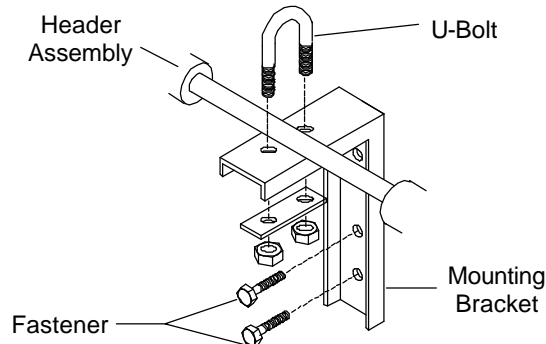

Figure 6
2. Position the brackets so that the top of the bracket is aligned with the bottom of the headers and is centered between the cylinder connections. The brackets should be evenly spaced with the end bracket placed as close to the last cylinder as possible to provide the most support and stability. (Figure 6)
3. Mark the mounting hole and install fasteners suitable for type of wall construction. (Figure 6)
4. Fit the U-bolt over the header piping and tighten the two mounting nuts. (Figure 6)